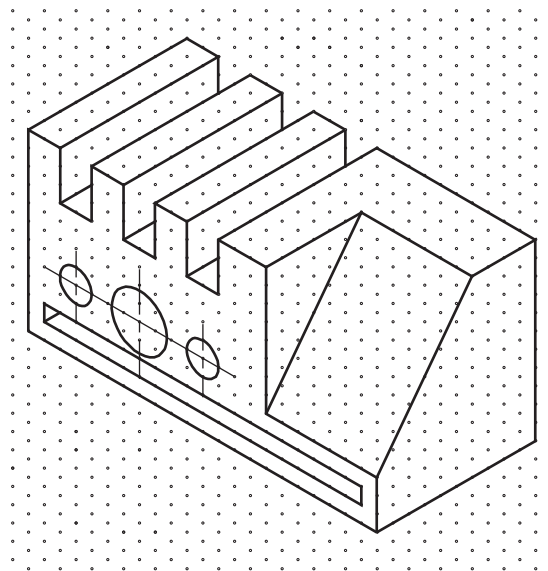

Fig. 7-17
2. Draw the front view of the slider block shown in Fig. 7-17. Assume the spacing between dots is .125. Start the drawing at the lower left corner using absolute coordinates of **1,3**. Use the **RECTANG** command to draw the rectangular slot. Use relative polar coordinates to locate the endpoints of the lines, and absolute rectangular coordinates to locate the centers of the three holes. Save the drawing as **ch7-block.dwg**.